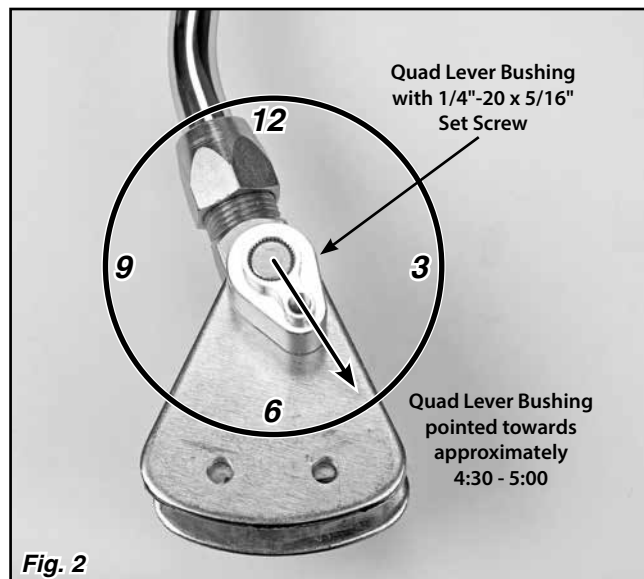

Fig. 2
Step 1: With the Shifter in Park, verify that the quad lever bushing on the Shifter is pointed towards approximately the 4:30 - 5:00 position as shown in **Fig. 2**. If it is not, loosen the set screw in top of the quad lever bushing using a 1/8" Allen wrench. Slide the bushing off of the Shifter. Reinstall the bushing pointed towards approximately the 4:30 - 5:00 position as shown. Retighten the set screw.